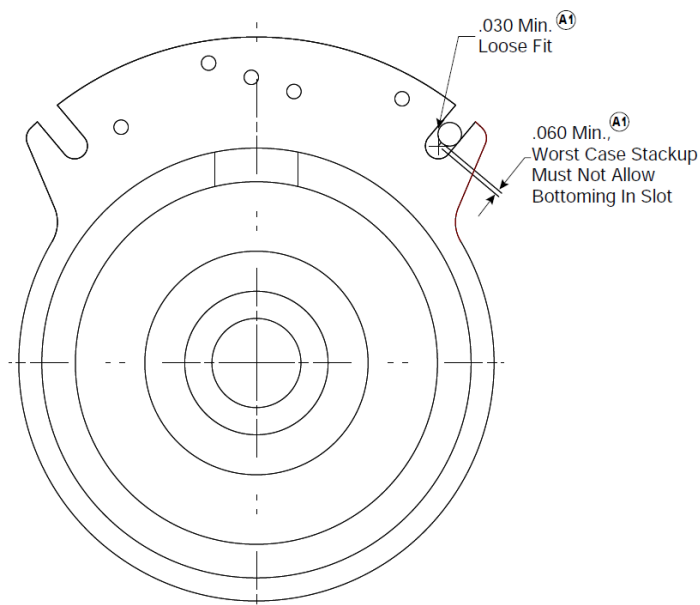

Fig. 4 Anti Rotation reference guide (Dimensions in Inch).
- Ensure the clutch has both axial and radial free play at minimal level. (refer fig. 4)